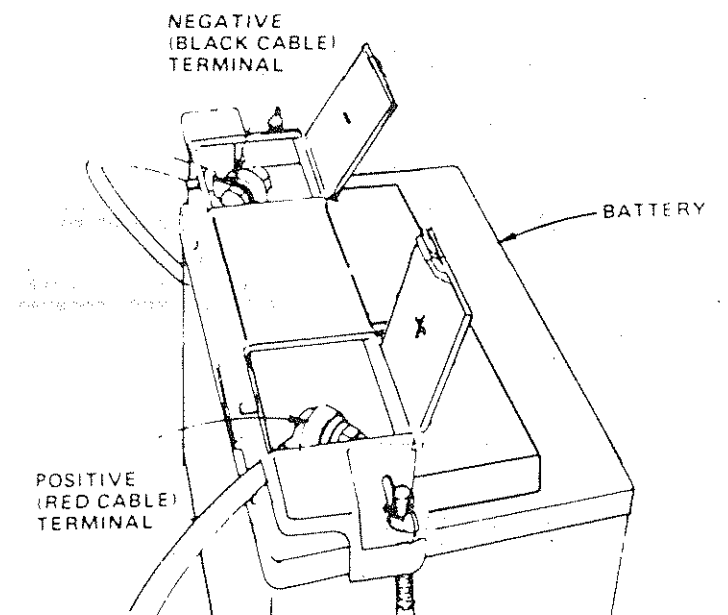

FIGURE 29
- Remove Terminal Guard (Fig. 29).
- Clean Terminals and Battery Cable ends with a wire brush until bright. Replace Battery Cables, connecting RED Battery Cable to Positive Terminal first, then BLACK Battery Cable to Negative Terminal (Fig. 29). Coat Terminal Connections with Vaseline.